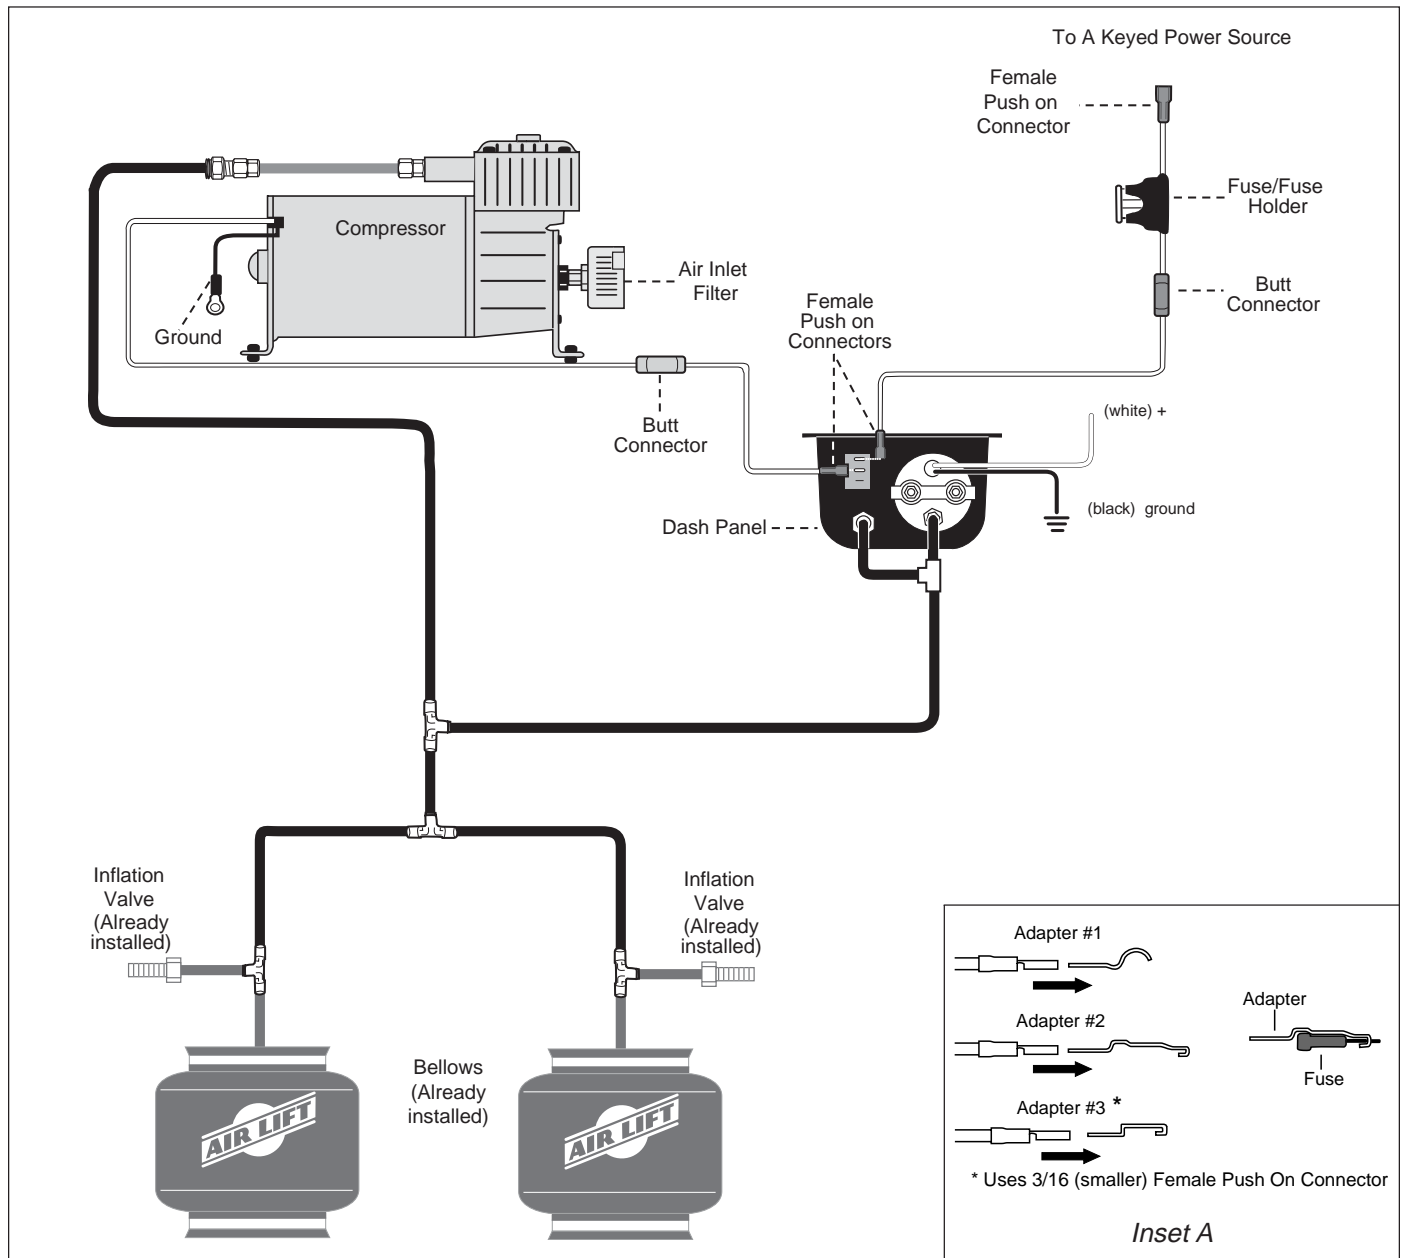

Figure 1
3. Connect the (red) wire from the panel to the (red) wire on the compressor using a blue butt connector (Figure 1). Connect the other end of the wire to the push switch using the blue  $\frac{3}{16}$  female push on connector. With your thumb against the front side of the switch, push the connector onto one of the terminals on the back of the ON/OFF switch on the gauge panel
5. Determine the length of supplied (red) wire required to connect the dash panel to the fuse assembly. Cut and crimp the wire into the butt connector (Figure 1). Connect the other end of the wire to the push switch using the blue  $\frac{3}{16}$ " female push on connector. With your thumb against the front side of the switch, push the connector onto the remaining terminal on the back of the ON/OFF switch on the gauge panel.
4. Determine the location of the third tee. Cut the air line between the first two tees and install a third (Figures 1 & 5).
7. Determine the closest and easiest area to connect the gauge panel to the air line between the compressor and air springs. Measure the distance between these two points and cut the air line and install the last tee (Figures 1 & 5).